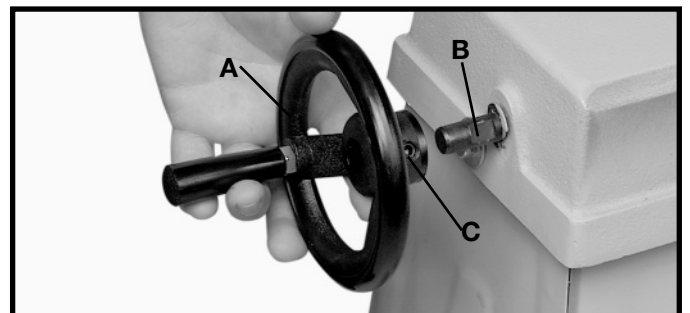

Fig. 4
Assemble the vise clamping handwheel (A) Fig. 4, to the shaft (B), and tighten set screw (C) against the flat on the shaft (B).